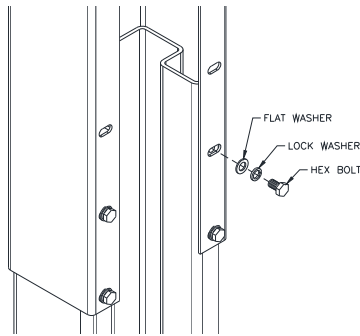
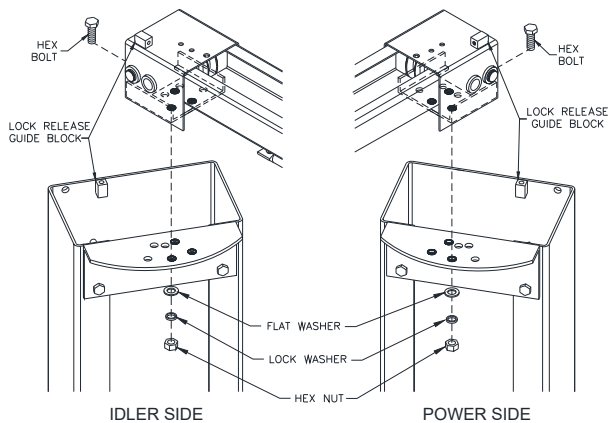

Fig 2 - Column Extension
Fig 10 – Asymmetric Overhead Mounting
- With columns still horizontal, assemble Power Column Extension to Power Column using (8 sets) M12 x 20 Hex bolts, flat washers, and lock washers. The (2) Column Extensions are not identical. **IMPORTANT: The Lock Release Guide Block at top of Column Extension should be in-line with Lock Release Pulley in Column. See Fig 10 for Clarification.** For the tall height setting, use bottom holes as shown in **Fig 2**. For the short setting, use the upper holes. Repeat for opposite Idler Column and Idler Column Extension.
- 19) Place the Overhead on top of the mounting brackets on Column Extensions and bolt together using (3 sets) M12 x 25 Hex bolt, nut, flat washer, and lock washer. Place the lock release guides towards the rear of the lift. Hand-tighten bolts to allow for column adjustment if needed. Use the holes highlighted in **Fig 10** below.